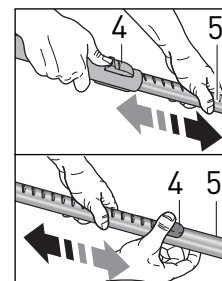

Figure 4
Adjust the telescopic tube (5) to the correct height by pushing the slide button (4, figure 4) and gently pulling the tube out to lengthen, or pushing it in to shorten. Release the slide button (4) to lock the tube to the adjusted height.
**When changing heads,** always switch the vacuum off with the power control knob (10), and then unplug the power cord.